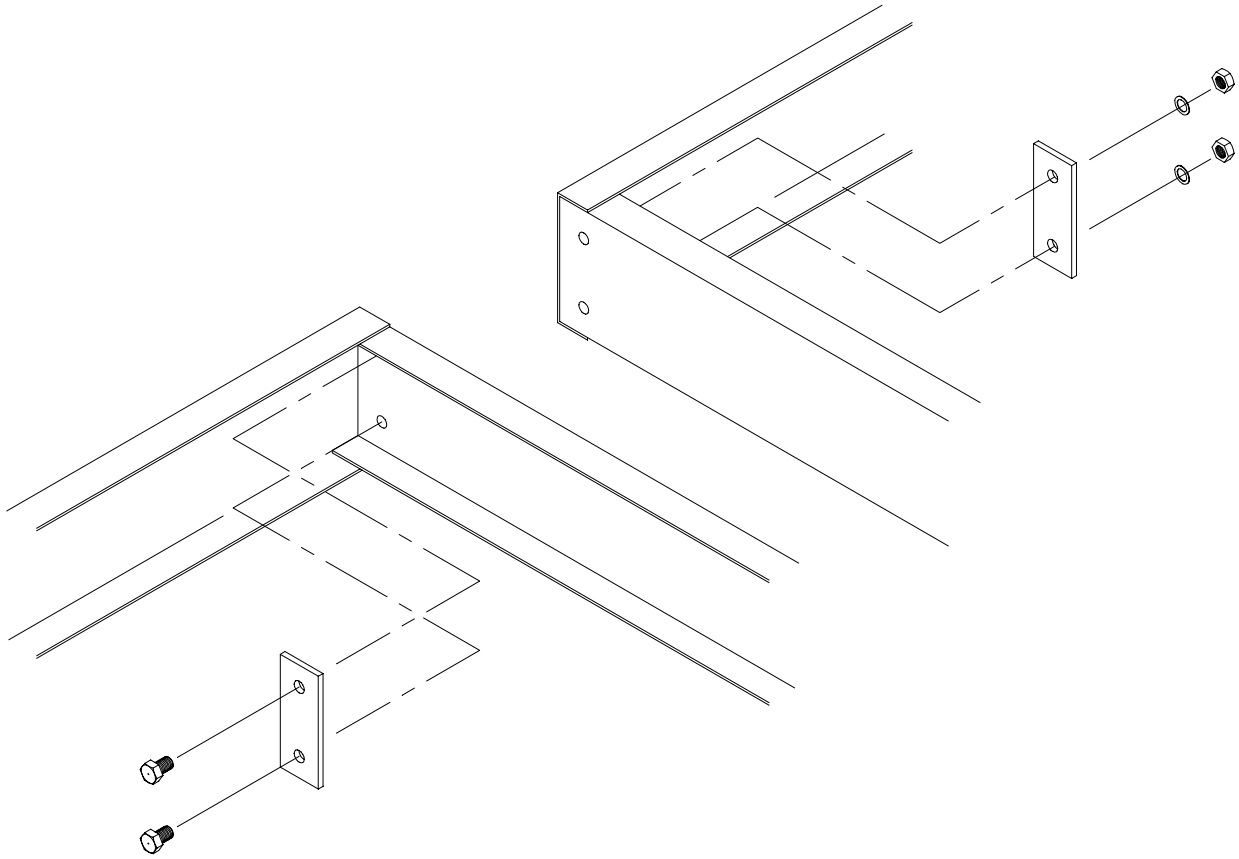

Figure 7
5. Place all remaining mobile bases on the rails. If there is more than one (1) section, bolt all sections together using the supplied splice plates and bolts. (See Figure 7).